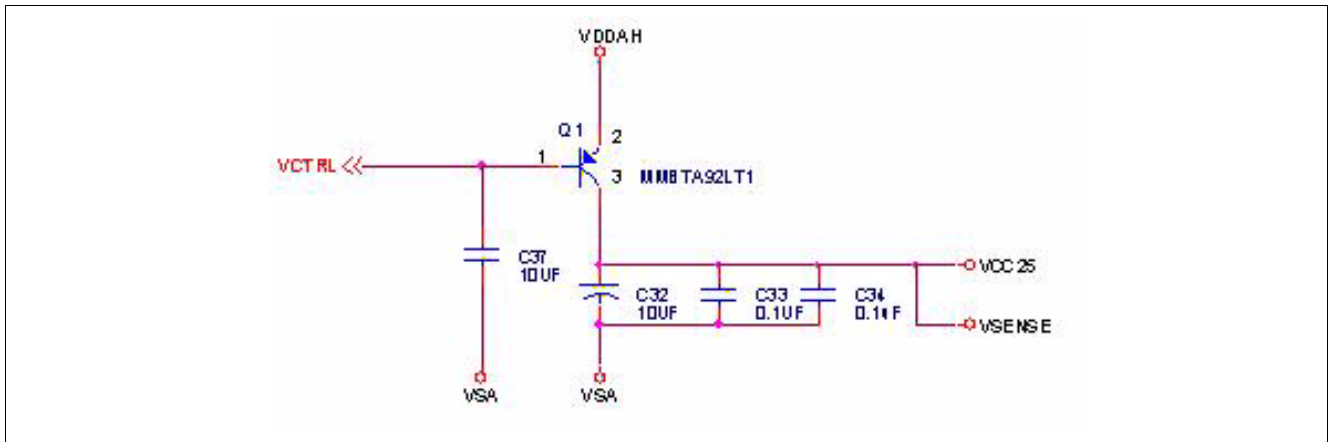

Figure 3 Reference Design
*Note: ADM8515/X is a dual power device, it needs both 3.3 V and 2.5 V power supply. Inside the chip, there is an embedded 3.3 V to 2.5 V power regulator that can generate the needed 2.5 V power to supply the chip. The reference schematics design is shown in Figure 3*